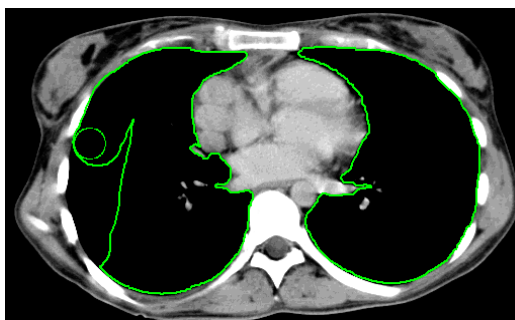

Figure 277 – Adding an area to a contour using the Brush drawing tool
4. To add/remove a contour, press and hold down the left mouse button and move the brush cursor to create the desired shape (see Figure 277).